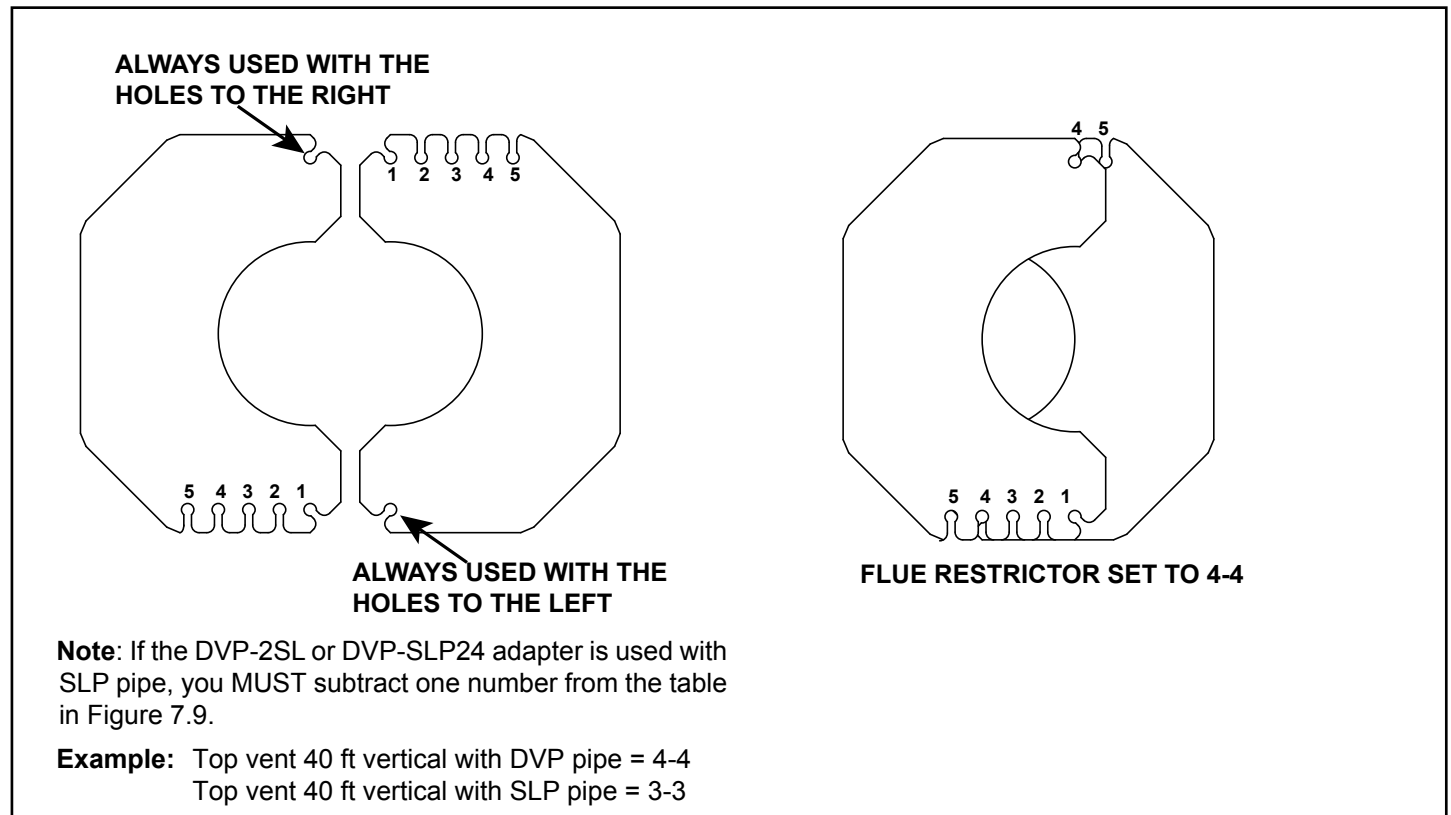

Figure 4.15. Setting the Flue Restrictor
2. Match the amount of vertical you have in the system with the chart to find the appropriate position to set the flue restrictor. See Figure 4.15 and Table 4.1.